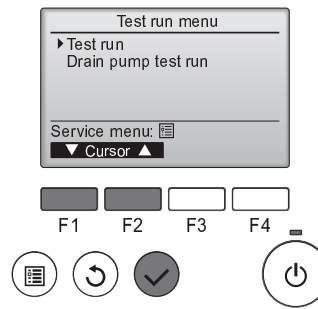

Fig. 5-4
- ④ Select "Test run" with the **F1** or **F2** button, and press the button. (Fig. 5-4)